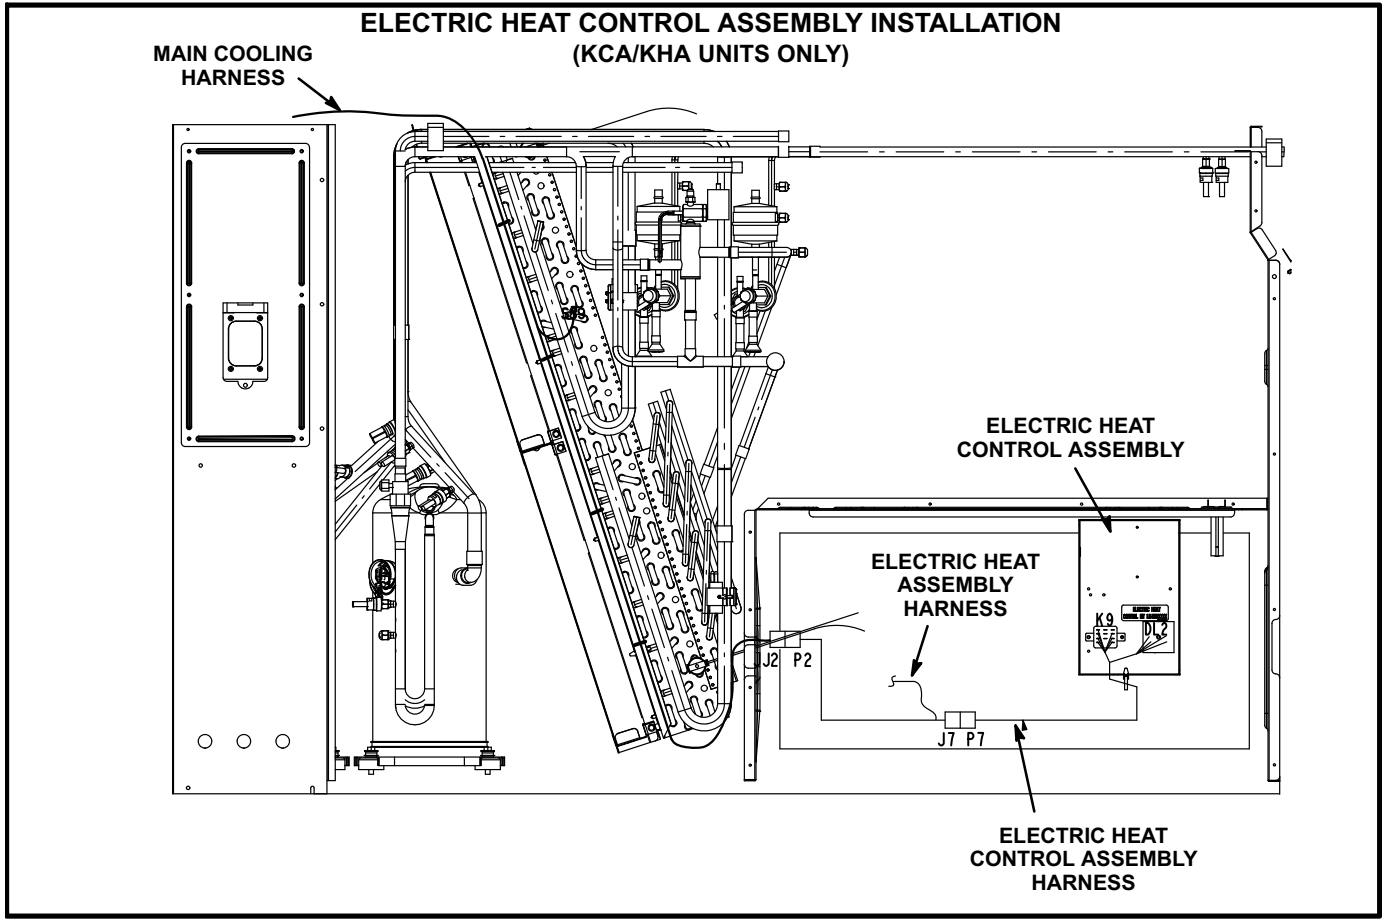

**FIGURE 2**
- 4- *Single disconnect installations-* Install separately ordered TB2, CB10, or S48 (150A) using screws provided. See figure 2 for location.
- 5- *KCA/KHA Unit Only -* Replace the unit TB2 with the TB2 provided in this kit. Install separately ordered CB10 or S48 (150A) using screws provided. See figure 2 for location.